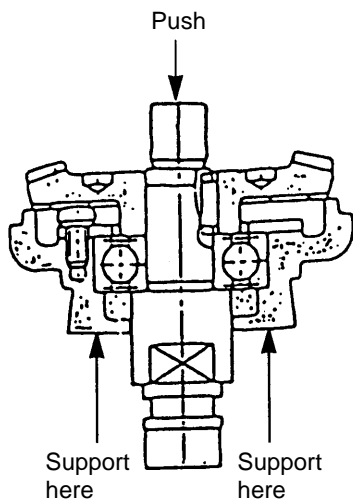

Fig. 5
- (a) Support the Packing Gland [27] as shown in Fig. 5, and push Spindle (A) or (B) [30] downward approximately 2 mm.